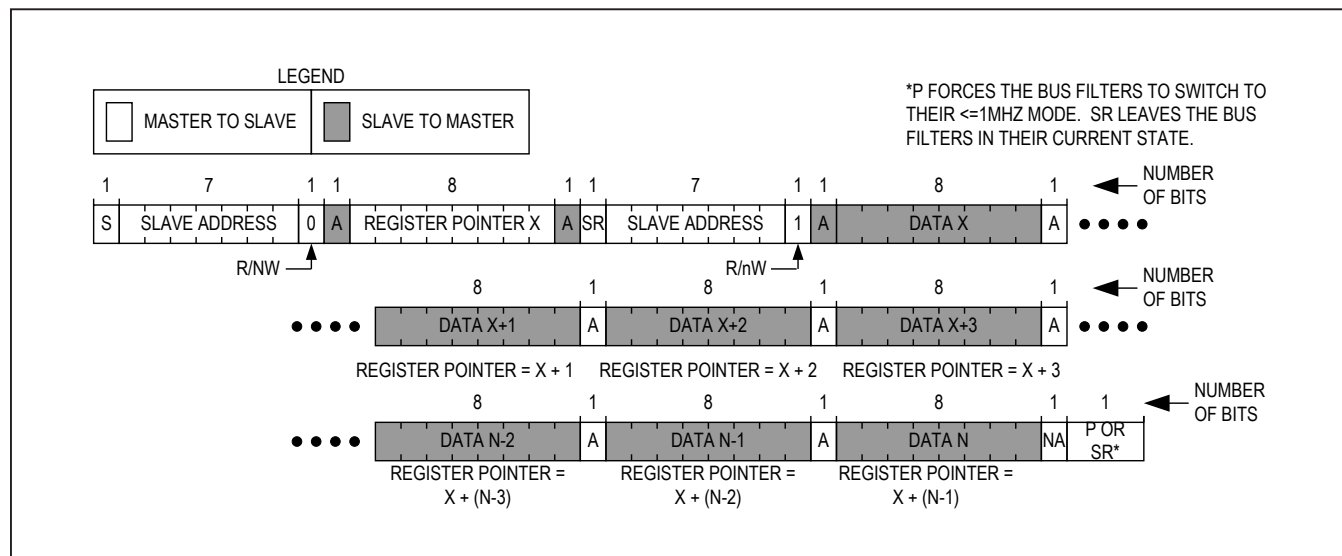

Figure 29. Reading Continuously from Sequential Registers X to N
Figure 29 shows the protocol for reading from sequential registers. This protocol is similar to the read byte protocol except the master issues an acknowledge to signal the slave that it wants more data: when the master has all the data it requires it issues a not acknowledge (nA) and a stop (P) to end the transmission.